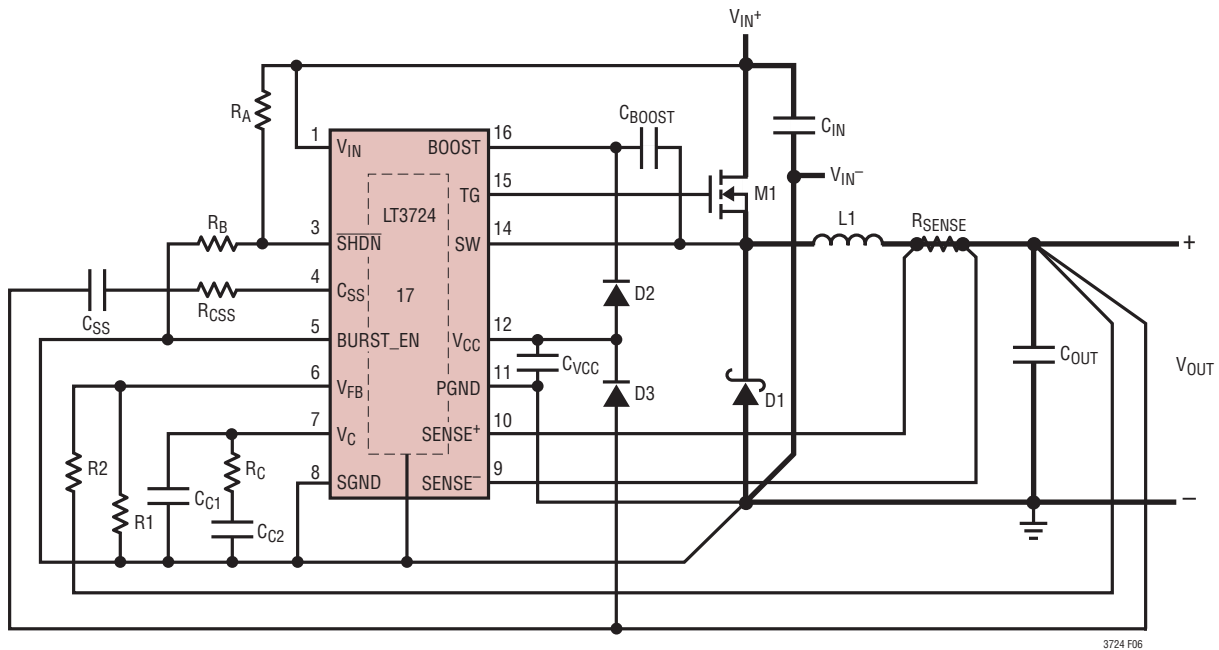

Figure 9. LT3724 Layout Diagram (See PCB Layout Checklist).
When laying out the printed circuit board, the following checklist should be used to ensure proper operation. These items are illustrated graphically in the layout diagram of Figure 9.
5. Locate the V_{CC} and BOOST capacitors in close proximity to the IC. These capacitors carry the MOSFET driver's high peak currents. Place the small signal components away from high frequency switching nodes (BOOST, SW, and TG). In the layout shown in Figure 9, place all the small signal components on one side of the IC and all the power components on the other. This helps to keep the signal and power grounds separate.